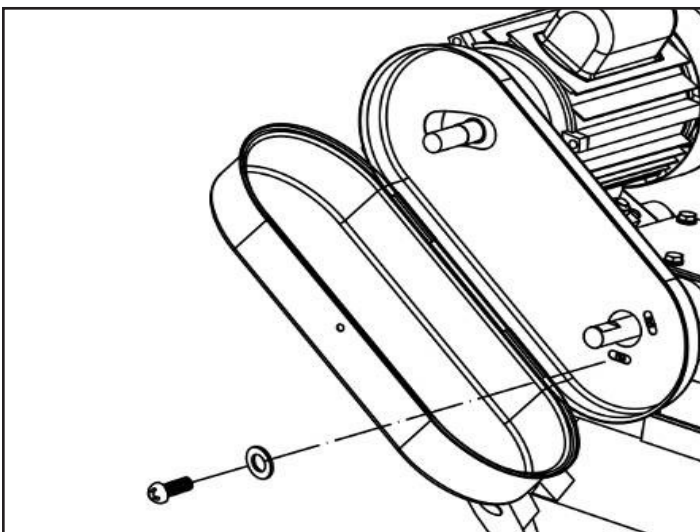

FIGURE 6
1. Remove the pre installed screws and washers from the band saw near the gear shaft assembly. Place the belt house over the motor and gear shafts and secure it with the removed screws and washers. SEE Figures 6 & 7.